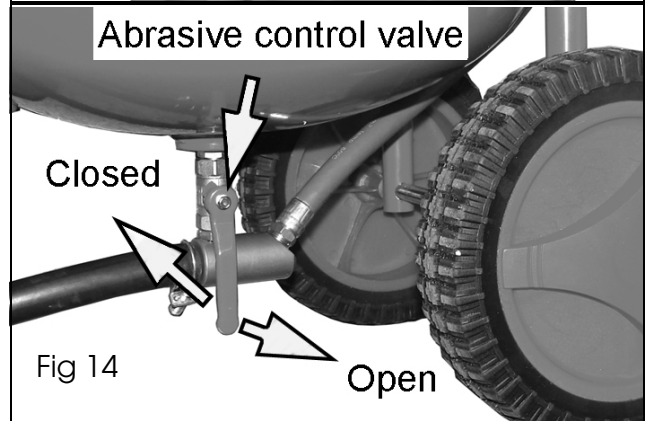

Fig 14
7. With the trigger open, slowly open the abrasive control valve as shown in Fig 14 until abrasive material begins to flow out of the gun.
1. While continuing to press and hold the trigger, turn the abrasive control valve to the closed position, see Fig 14.